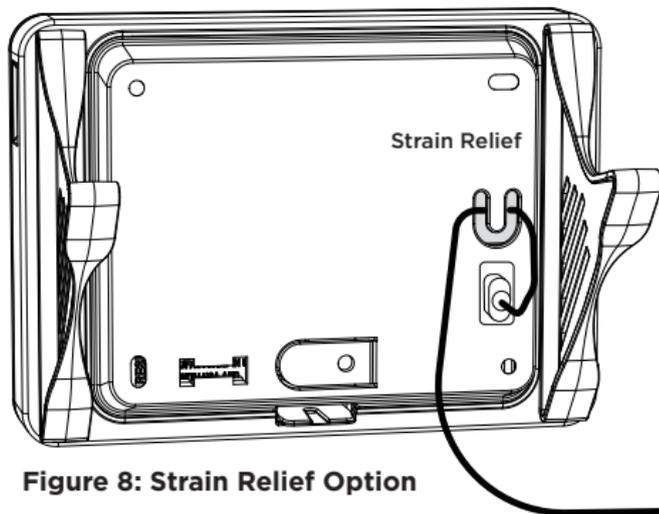

Figure 8: Strain Relief Option
2. If desired, insert the cable into the strain relief to secure the XTLtouchINT to its power source. See Figure 8.